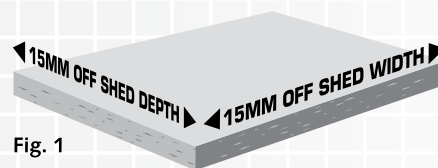
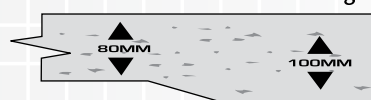

Fig. 1
Fig. 2
Step 2 - Ensure that the base substrate is compacted firmly. We suggest that the slab should be 80mm thick in the middle and 100mm thick around the edges (Fig 2).
Step 3 - Lay boxing to the required size. The raised slab size should be 15mm smaller than the overall base size of the shed and at least 30mm above the ground line. See Fig. 1 and Raised Slab Specification table for correct measurement.
The key-lock handle (Fig. 1), features a stainless steel hook that is secured with a strong angle brace (Fig 2) to help prevent the door from being forced open. Upon closing, two brackets lock the back edge of the door (Fig. 3).